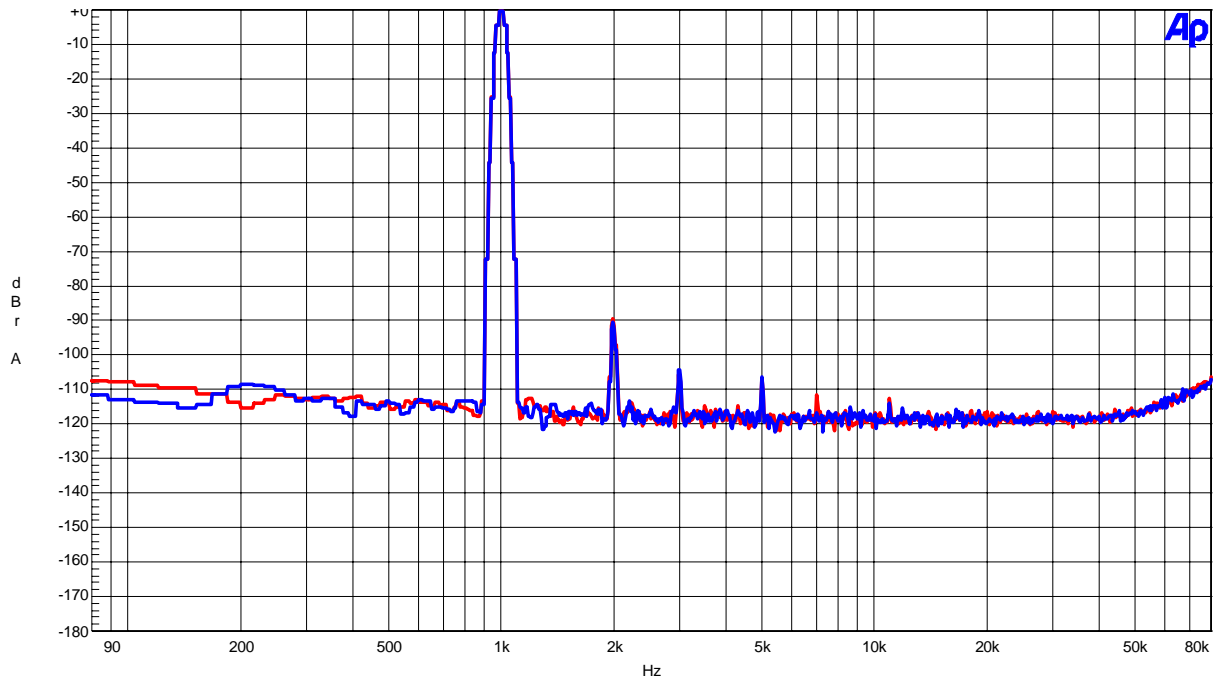

Figure 27. FFT(Input Frequency=1kHz, Input Level=0dBFS)
- Figure 27. FFT (Input Frequency =1kHz, Input Level =0dBFS)